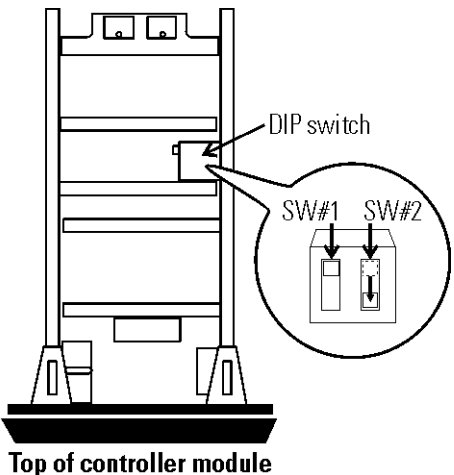

Figure 4-3. DIP Switch Location
3. Looking at the top of the module, locate the red DIP switch indicated in Figure 4-3. With a fingernail or small screwdriver, turn off SW #2 by moving the white toggle down or towards the front of the module. (SW#2 is the top switch when looking at module from right side.)